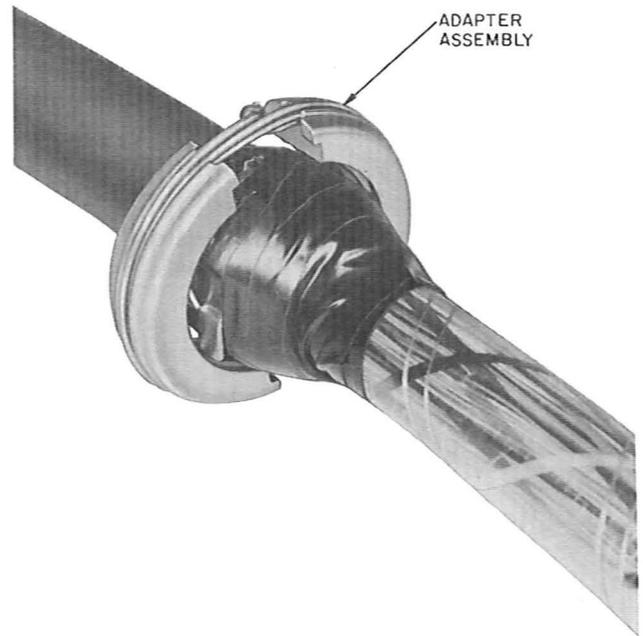

Fig. 31—Adapter Assembly Installed
**6.04** Install the two spacers of the adapter assembly over the inner sheath clamp and secure using the lead lashing wire furnished with the adapter assembly as shown in Fig. 31.